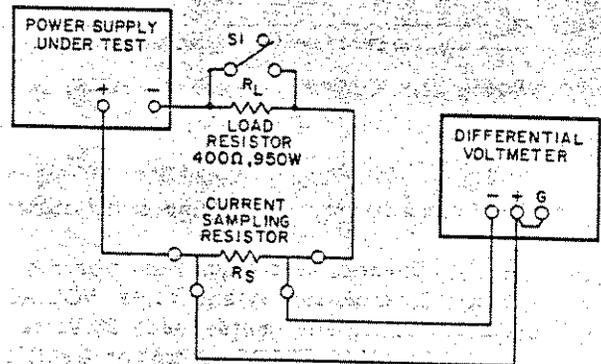

Figure 5-10. Output Current, Test Setup
- Connect test setup shown in Figure 5-10 leaving switch S1 open throughout check.
- Connect test setup as shown in Figure 5-10.
- a. Utilize test setup shown in Figure 5-10, leaving switch S1 open throughout test.